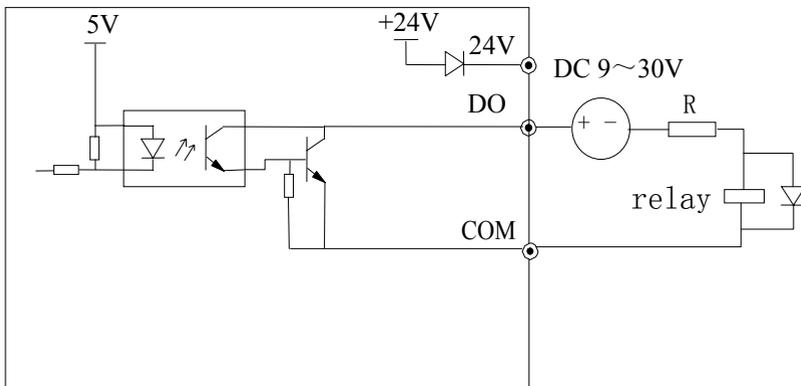

Fig 2-26 Wiring method 2 of DO as switching output
2) Multi-function output terminals D0 as switching output can also use the external 9~30V power supply and the wiring method is shown in Figure 2-26.